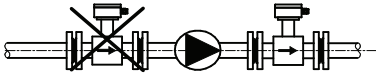

Figure 2.4
3. The FM100 must be located downstream of any pumps in the pipeline (see Figure 2.4). Straight-line length of at least 25 times the diameter of the sensor is required between a pump and the FM100.